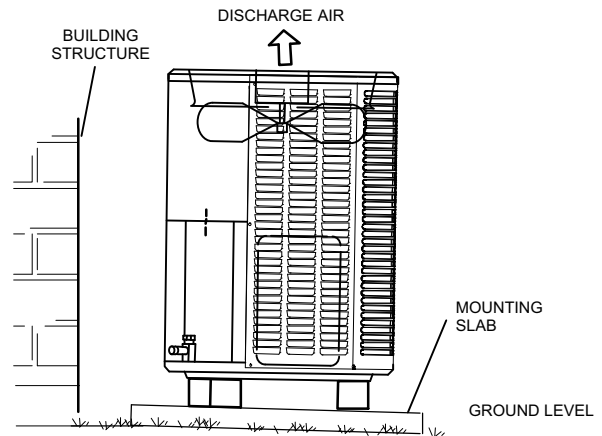

Figure 5. Placement, and Slab Mounting
- When possible, do not install the unit directly outside a window. Glass has a very high level of sound transmission. For proper placement of unit in relation to a window see the provided illustration in figure 5, detail A.
When installing unit at grade level, the top of the slab should be high enough above grade so that water from higher ground will not collect around the unit. The slab should have a slope tolerance as described in figure 5, detail B.